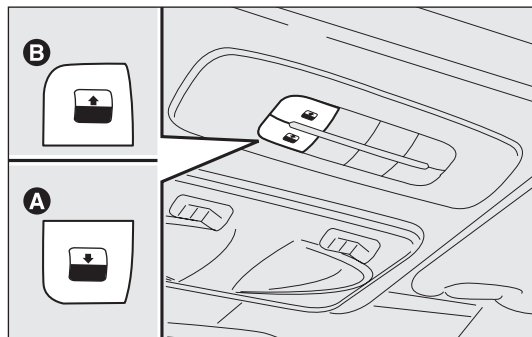

fig. 65
The large electric sunroof comprises two panes of glass, one of which is mobile and the other fixed. These are equipped with two shutters (front and rear) that can be moved manually. The shutters can be used in “fully closed” or “fully open” positions (they have no fixed intermediate positions). To open the shutters: grip the handle A-fig. 65, release it and pull it in the direction of the arrows to the “fully open” position. To close them, carry out the procedure in reverse. The sun roof can be operated only with the ignition key turned to MAR. The controls A-B fig. 65 on a dedicated control panel near the front ceiling lights open and close the sunroof.
Press and hold button B-fig. 65, and the front pane will move to the “spoiler” position; press button B-fig. 65 again for over half a second to make the sunroof slide automatically to the fully open position; press the button once more to stop the sunroof at an intermediate position.
From the fully open position, press button A-fig. 65 for over half a second to move the front pane to the “spoiler” position; press the button again to stop the sunroof at an intermediate position; press button A-fig. 65 once more and hold it down to close the sunroof completely.
- ☐ press button A-fig. 65 in closing position;